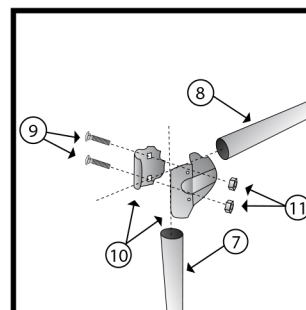

Figure 3
4. Attach top rail bar (8) using brace clamps (10), 5/16" carriage bolts (9) and 5/16" keps (11). Attach brace clamps on both sides of the top rail bar. (Figure 3)